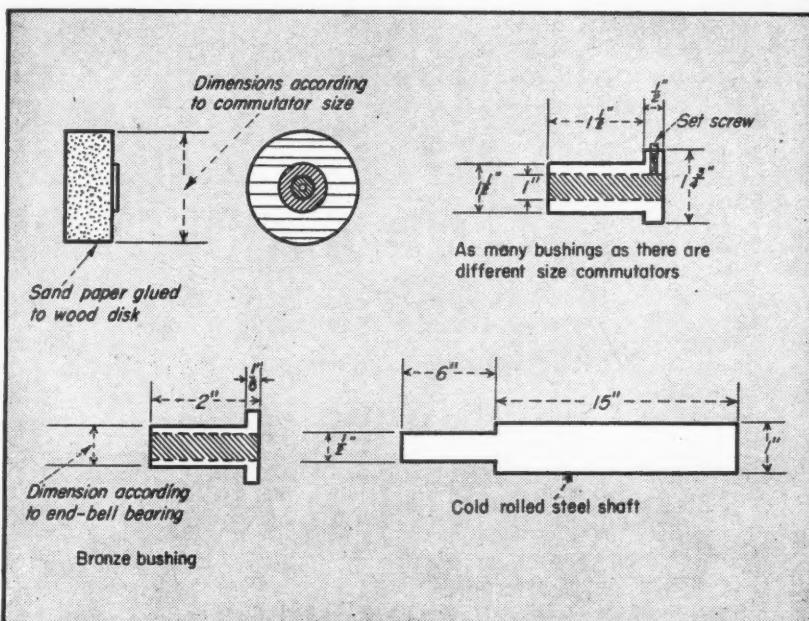

FIG. 2.—Details of sanding disc, shaft and brushing construction.
**FIG. 2.** Coils are quickly and cleanly pulled by a hand-guided vertically-moving hook which operates with 130 pounds of air pressure. Movement of hook is dependent upon air pressure which in turn is regulated by pressure on a foot pedal. Notched table assembly was constructed in the shop.
foot pedal. Air valves are controlled by this foot pedal, directing air at 130 pounds pressure through a metal tube to the top of the cylinder when the pedal is depressed and permitting the air to escape and the piston to return to the top of the cylinder when foot pressure is relieved. Varying foot pressure can increase or decrease the speed of the piston or can hold it stationary at any desired level. The unit is mounted beneath a shop-constructed steel table, the 5/16-inch top being notched directly over the compressor. In operation, the stator, with severed coil ends placed upwards, is rested on the table and the rising hook is guided to the various coils by means of the hand lever. Coils are pulled quickly and cleanly from their slots when the foot pedal is depressed and the piston is forced downwards. (Fig. 2).
After thoroughly baking the newly wound stators, the units are dipped in a floor-recessed cold varnish tank. Small units are raised and lowered on a rack suspended from an overhead chain hoist. When larger units are dipped, the rack is lowered to the bottom of the tank. When not in use, the tank is covered by a hinged steel cover. The buried tank occupies a minimum of shop space, permits a low and convenient working level and eliminates the possibility of leaking or spillage. (Fig. 2).